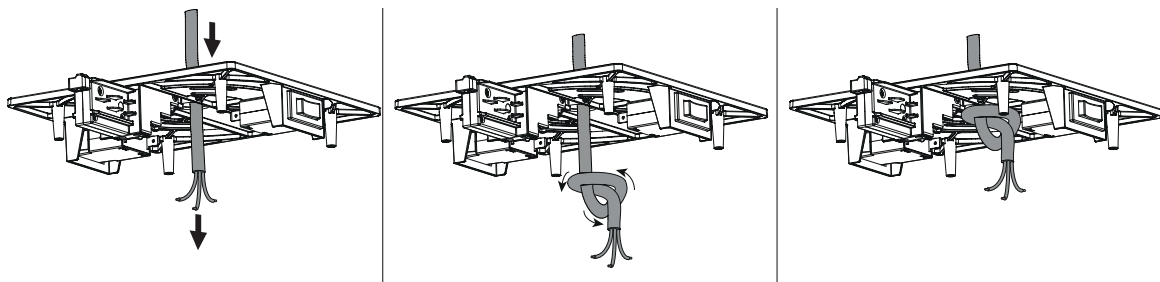

Figure 1
1. Suspended Use: Create an anchor point for the wiring. **Figure 1**